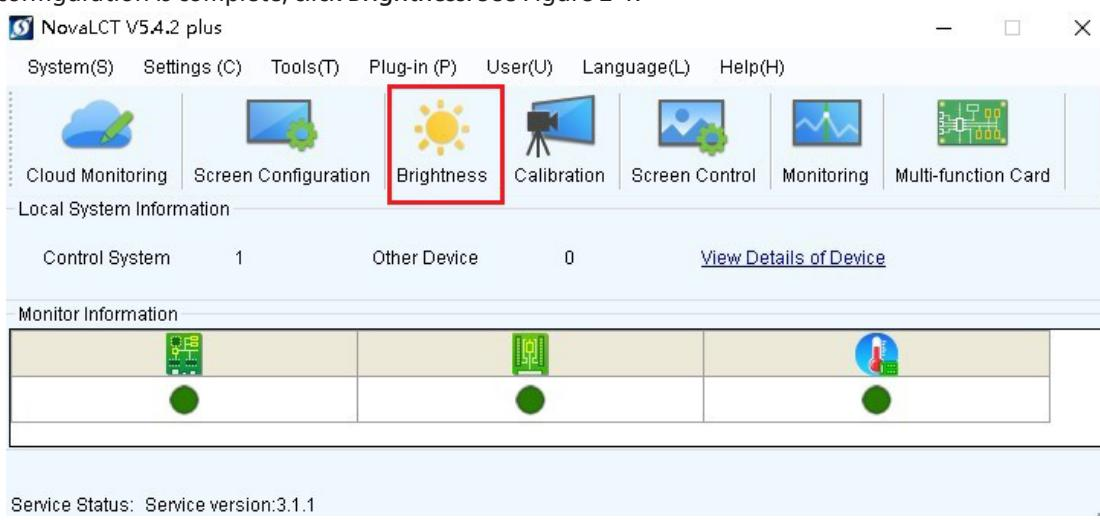

Figure 2-1
2. After screen configuration is complete, click Brightness. See Figure 2-1.